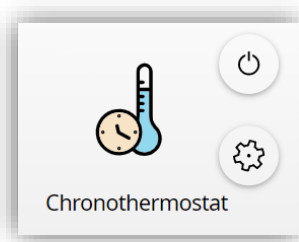

Figure 106. Chronothermostat box
- **Enablement** [*0 = Disable; 1 = Enable* / *0 = Enable; 1 = Disable*]: selects the polarity of the control object "[Ci] Chronothermostat: Enable", which will enable or disable the chronothermostat analogously as from the on-screen switch button of the box (see Figure 106). The box configured as a chronothermostat control looks as follows: